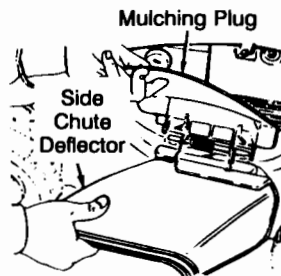

Figure 13
2. On the side of the mower deck, lift the hinged mulching plug. See Figure 13.